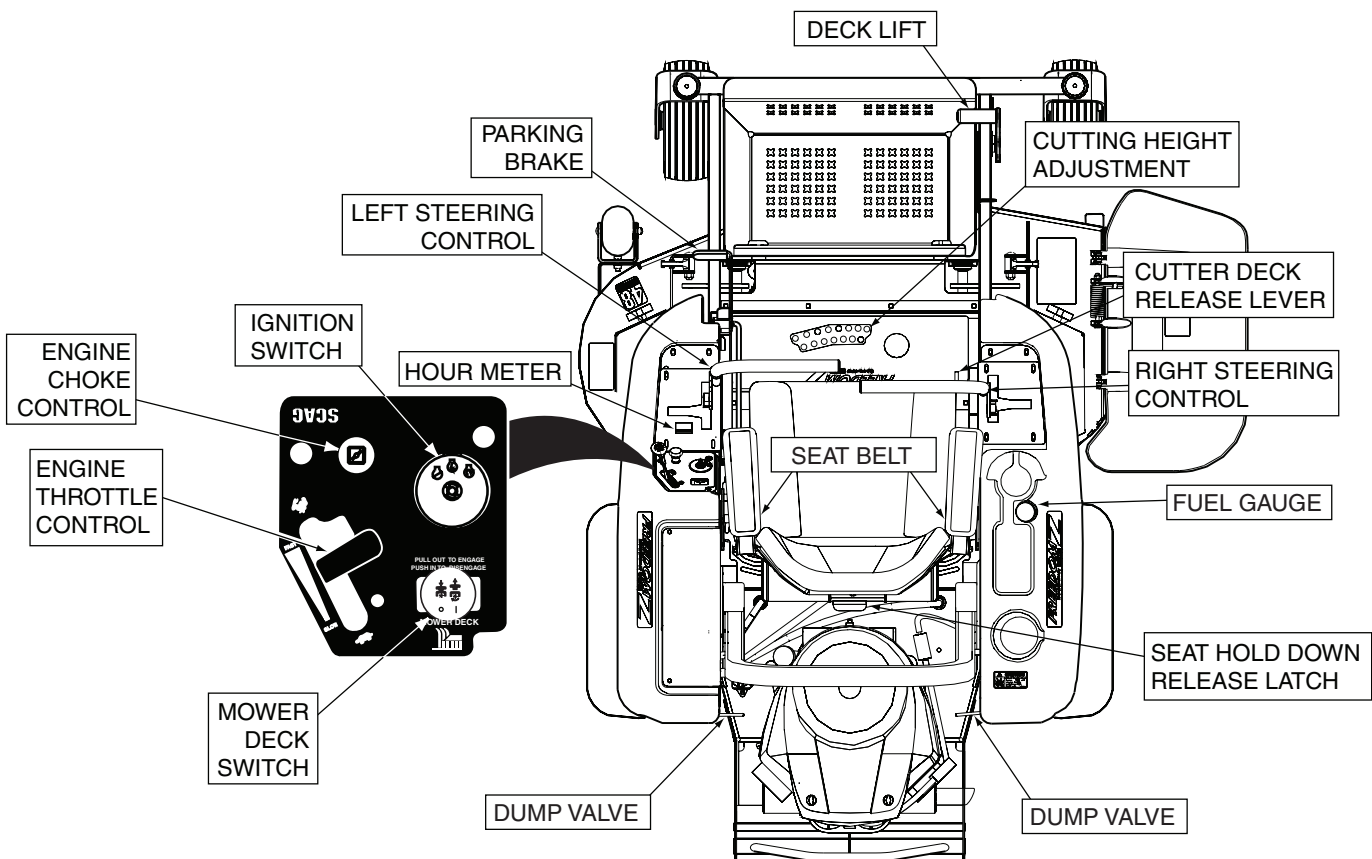

Figure 4-1. Controls and Instruments
- 1. Ignition Switch (Figure 4-1).** The ignition switch is used to start the engine and has three positions; OFF, ON, and START.
- 2. Mower Deck Switch (Figure 4-1).** Used to engage and disengage the mower drive system. Pulling up on the switch will engage the deck drive. Pushing down on the switch will disengage the deck drive.
- 3. Engine Choke Control (Figure 4-1).** Used to start a cold engine.
- 4. Engine Throttle Control (Figure 4-1).** Used to control the engine speed. Pushing the lever forward increases engine speed. Pulling the lever back decreases engine speed. Full back position is the IDLE position. Full forward is the cutting position.
- 5. Fuel Gauge (Figure 4-1).** Indicates the amount of fuel in the fuel tank.
6. **Hourmeter (Figure 4-1).** Indicates the number of hours the engine has been operated. It operates whenever the ignition key switch is in the ON position. Has preset maintenance reminders for engine and hydraulic system oil changes. Will start flashing scheduled maintenance 2 hours before preset time and continue flashing until 2 hours after. Automatically resets.
7. **Fuse Holders (Figure 4-1).** Two 20-amp fuses protect the mower's electrical system. To replace fuses, pull fuse out of the socket and install a new fuse.
8. **Left Steering Control (Figure 4-1).** Used to control the mower's left wheel when traveling forward or reverse.
9. **Right Steering Control (Figure 4-1).** Used to control the mower's right wheel when traveling forward or reverse.
10. **Parking Brake Control (Figure 4-1).** Used to engage and disengage the parking brakes. Pull the lever back to engage the parking brakes. Push the lever forward to disengage the parking brakes.
12. **Deck Lift Foot Lever (Figure 4-1).** Used to raise and lower the cutter deck.
13. **Cutting Height Adjustment (Figure 4-1).** Used to set the cutter deck at the desired cutting height.
14. **Deck Release Lever (Figure 4-1).** Used to lock the cutter deck in the transport position. Push the foot pedal forward and pull back on the release lever to release the cutter deck for normal mowing.
15. **Seat Belt (Figure 4-1).** Used to secure the operator. Seat belt must be worn at all times during operation.
16. **Seat Hold Down Release Latch (Figure 4-1).** Located behind the seat. Used to secure the seat in the operator's position. Release the latch to gain access under the seat.
Do not travel forward over a curb. The mower will hang up on the curb. Raise the deck and travel backwards over the curb at a 45 degree angle. (See Figure 4-1 item 12 for cutter deck raising description.)